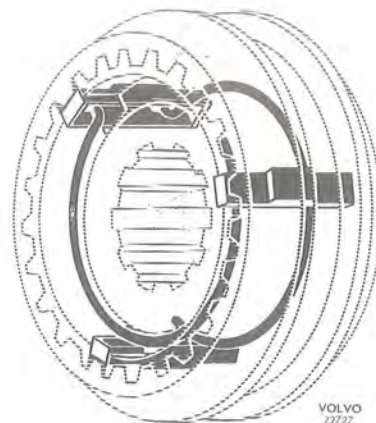

Fig. 4-26. Assembling the synchronizing
1. Assemble 1st-2nd and 3rd-4th speed synchronizers. Fit the snap rings correctly, see Fig. 4-26.